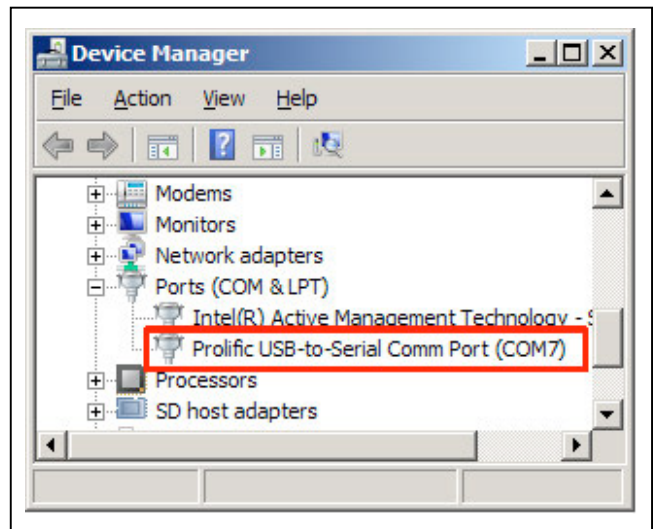

Figure 1. MAX66300 EV kit Virtual COM Port
- 4) The MAX66300 EV kit uses both the Prolific PL-2303HXD and a MAXQ610 microcontroller to provide SPI or UART connectivity to the MAX66300 device. Verify correct installation of the virtual COM port by selecting **Control Panel**→**System**→**Hardware**→**Device Manager** and expanding the **Ports (COM & LPT)**. If the driver installed properly, the “Prolific USB-to-Serial Comm Port” lists as in Figure 1. Note that your COM port number can be different.